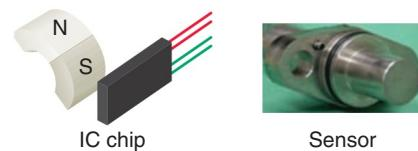

Figure 4-46 Hall effect sensor.
Hall effect sensors are used to detect the proximity and strength of a magnetic field. When a current-carrying conductor is placed into a magnetic field, a voltage will be generated perpendicular to both the current and the field. This principle is known as the Hall effect. A Hall effect sensor switch is constructed from a small integrated circuit (IC) chip like that shown in Figure 4-46. A permanent magnet or electromagnet is used to trigger the sensor on and off. The sensor is off with no magnetic field and triggered on in the presence of a magnetic field. Hall effect sensors are designed in a variety of body styles. Selection of a sensor based on body style will vary by application.